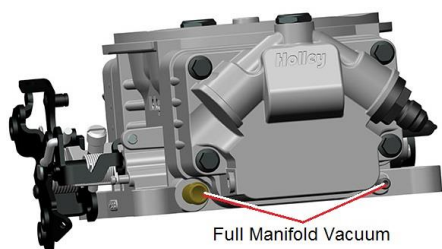

Figure 9
1. Connect the vacuum lines that were previously disconnected. **Figures 9 & 10** show the function of the ports in the STEALTH TERMINATOR™ throttle body.